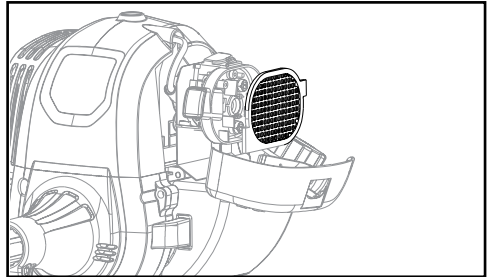

Fig. 12
2. Remove the air filter cover. To remove, press the Red button on the top of the cover with thumb and gently push up the cover with index finger, Fig.12.